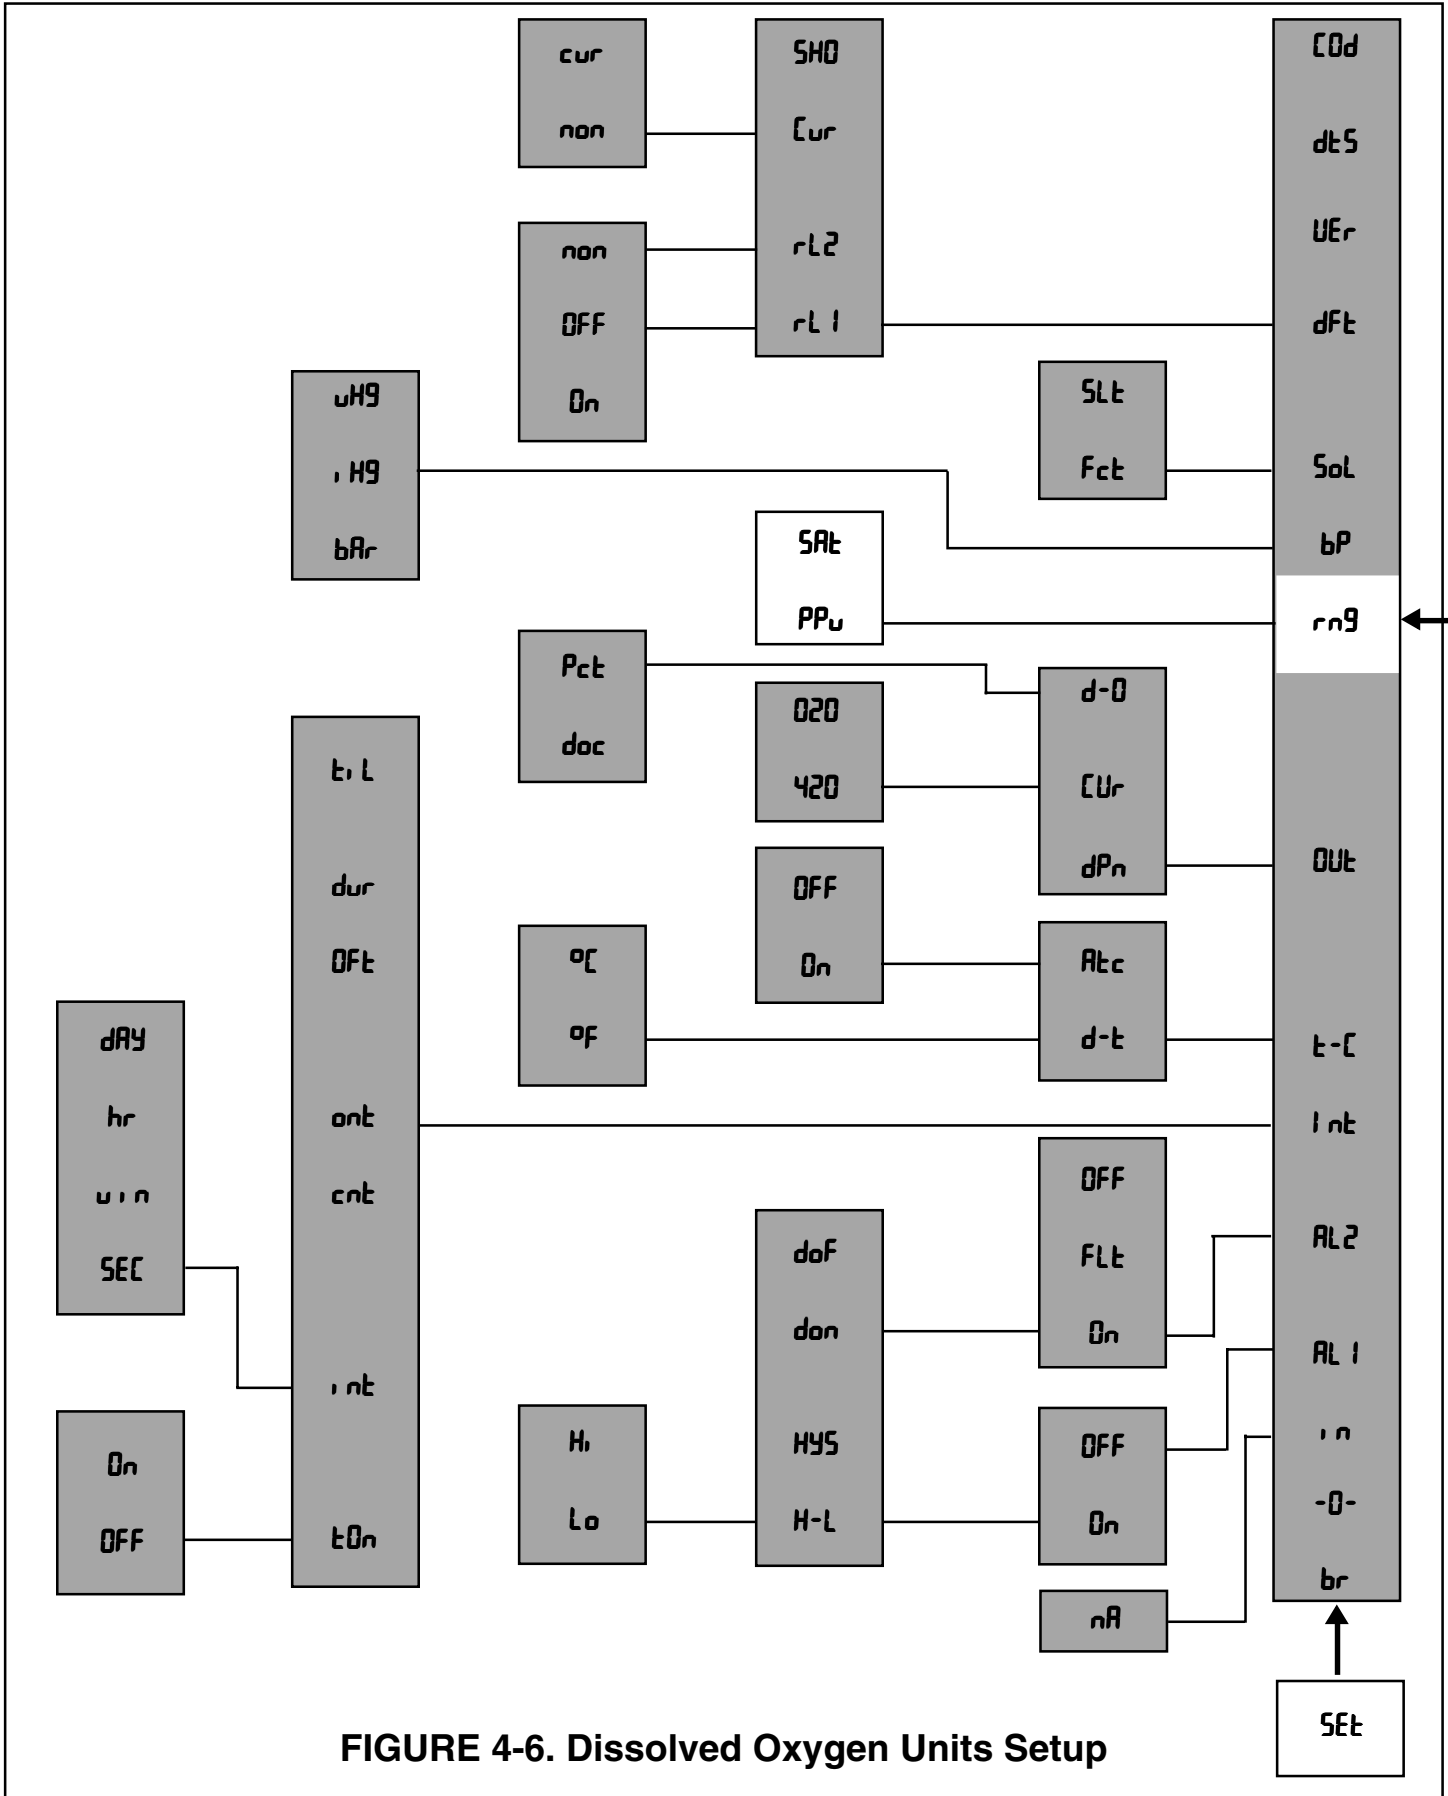

FIGURE 4-6. Dissolved Oxygen Units Setup
4.6.1 Dissolved Oxygen Transmitter Set Up “rng”. Refer to Figure 4-6.